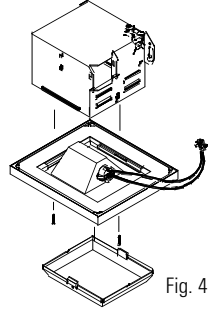

Fig. 4
3. Using the two #8 screws (packaged inside the reflector) secure the reflector & grill to the housing by installing the screws through the oblong holes in the reflector and into the lances on the side of the housing. (fig 4). Remember to plug the lamp holder into the appropriate receptacle before securing the grill & reflector in place.